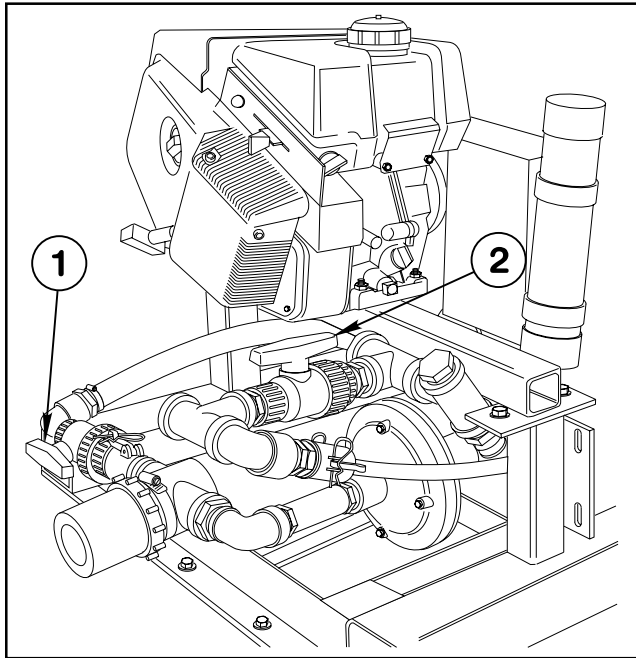

FIG. 2
SUCTION LINE VALVE: Opens and closes the Suction Line, which draws spray solution from the Tank to the Pump. The Valve is OPEN when the lever is positioned as shown in FIG. 2.
3. OPEN the Suction Line Valve and the Agitator Valve. See FIG. 2 on page 6.
3. OPEN the Suction Line Valve and Agitator Valve. See FIG. 2 on page 6.